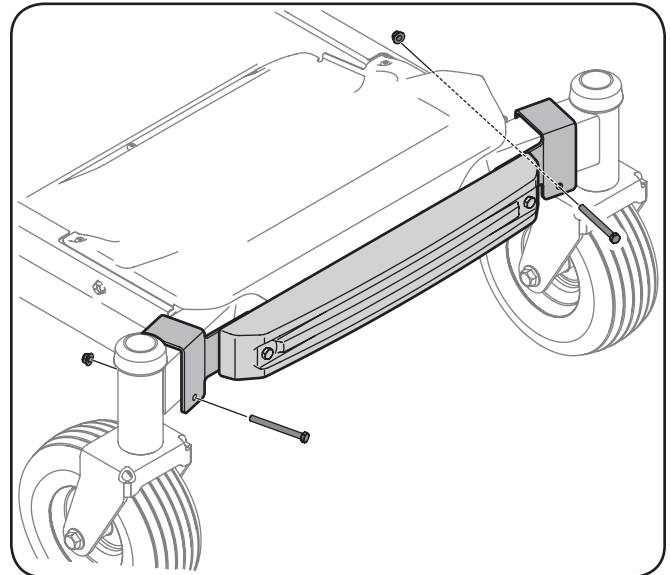

Figure 4-30
2. Attach the weight bar assembly to the front axle with a 3 1/4-inch (710-3056) screw and (712-04063) flange nut from hardware pack 689-00325 on the left side. Repeat on the right side. Do not fully tighten at this time. See Figure 4-30.